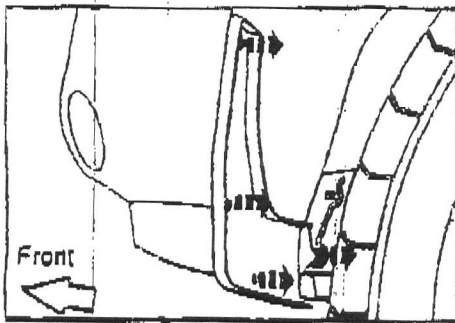

Fig. 1
3. Remove the four fasteners located in the front wheel well that attach the splash guard. (See Fig. 1)